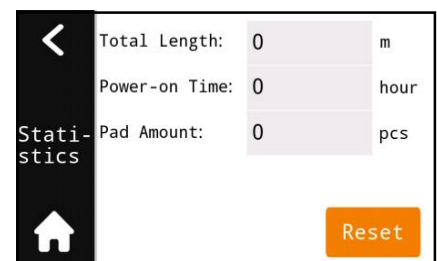

Figure 6
1) Tap  in the homepage to enter this page. (Figure 6).